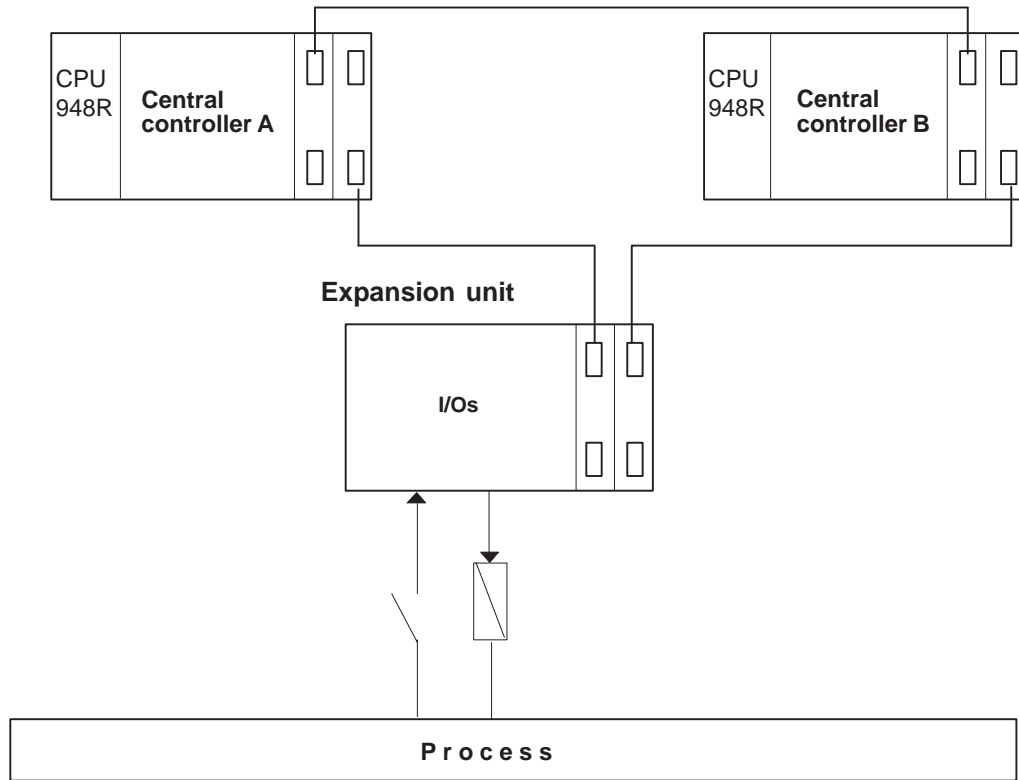

Figure 1-1 Structure of the S5-155H with One-Channel I/O Module Configuration ("Switched Mode")
**One-Channel Configuration** A one-channel I/O module configuration should be used when the application requires only central controller redundancy (Figure 1-1).